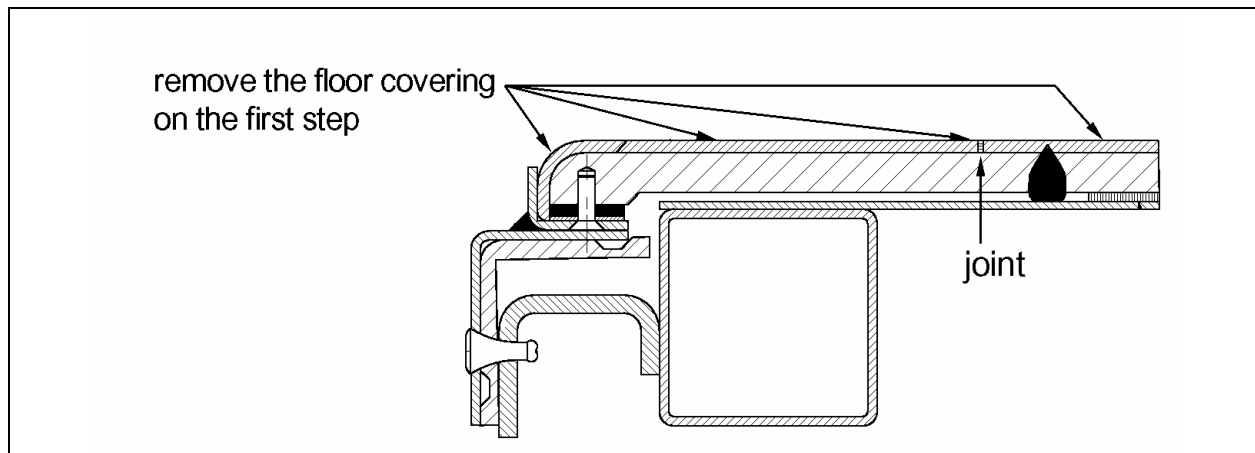

FIGURE 1
1. Sand under step covering using a Scotchbrite pad (figure 1).